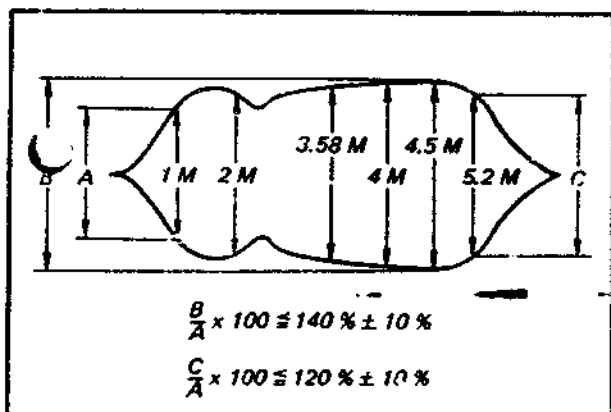

Fig. 5-4. Playback preamplifier frequency response
Adjust for: Correct frequency response as shown in Fig. 5-4.
4. Adjust R283 and R285 for the correct playback rf envelope as shown in Fig. 5-4.
5. Set R293 (equalize gain) fully clockwise. Adjust L205 for equalize frequency of 4.0 MHz. Adjust R283, R285 and R293 for correct rf envelope as shown in Fig. 5-4.